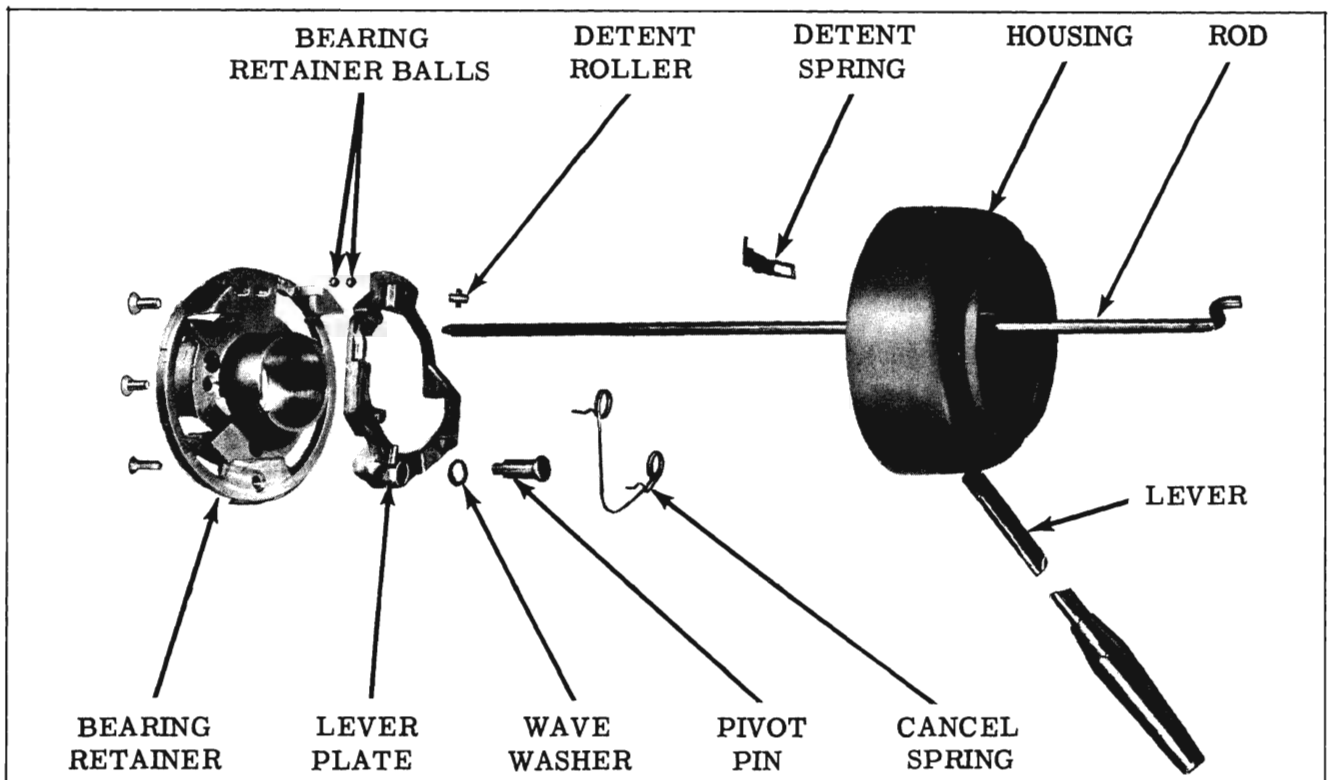

Fig. 4-78 Turn Signal Actuator Assembly
### TURN SIGNAL ACTUATOR ASSEMBLY REMOVE AND INSTALL (Fig. 4-78)
4. Depress the detent spring to disengage it from the upper bearing retainer, then separate the lever plate, detent spring, detent roller and detent balls from the upper bearing retainer. (Fig. 4-78)